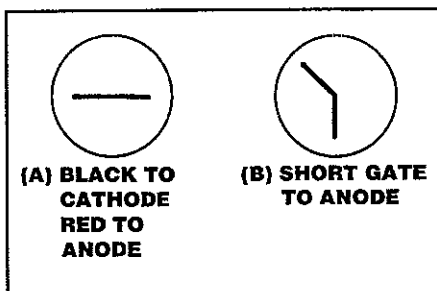

Fig. 5— Thyristor (SCR) test pattern. Again the black probe goes to the cathode and the red to the anode.
SCR Thyristor. The test result of this device is shown in fig. 5. To get a meaningful reading place the black probe on the cathode (C) and the red probe on the anode (A) and short the gate to the anode. (A similar test can be done on TRIACS by using Main Terminals 1 and 2 (MT1, MT2) and bridging over the test probe.)